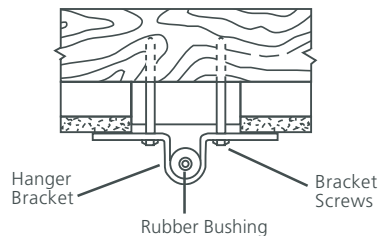

Figure 4
Use the (2) bracket screws to secure the hanger bracket to the joist as shown in Figure 4. Install rubber bushing in hanger bracket before assembling the parts to the ceiling joist. Do not use lubricant on the screw threads.